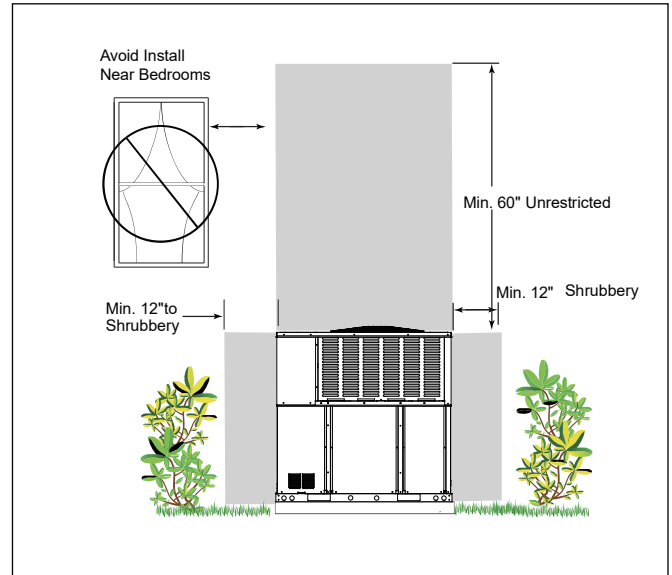
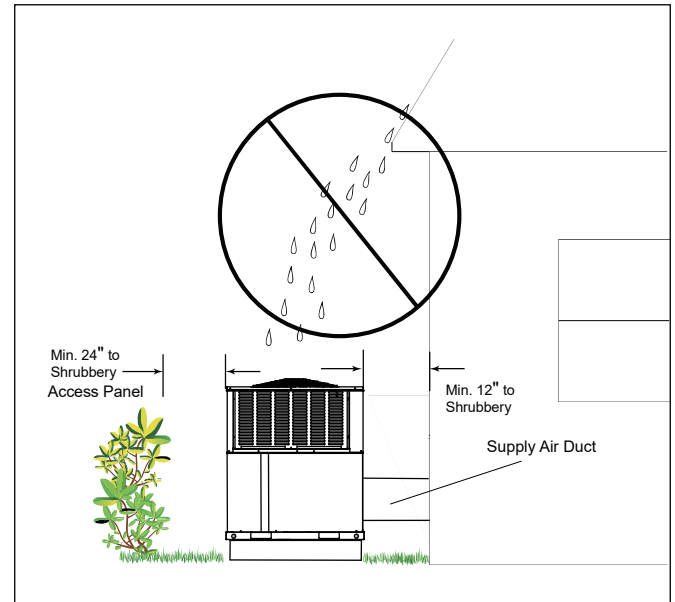

Figure 2-3
Figure 2-4
See Fig.2-3 and Fig.2-4.
- Units should be elevated 3-12 inches above the pad or rooftop, depending on local weather. This additional height will allow drainage of snow and ice melted during defrost cycle prior to its refreezing. Ensure that drain holes in unit base pan are not obstructed, preventing drainage of defrost water (Fig.2-4).